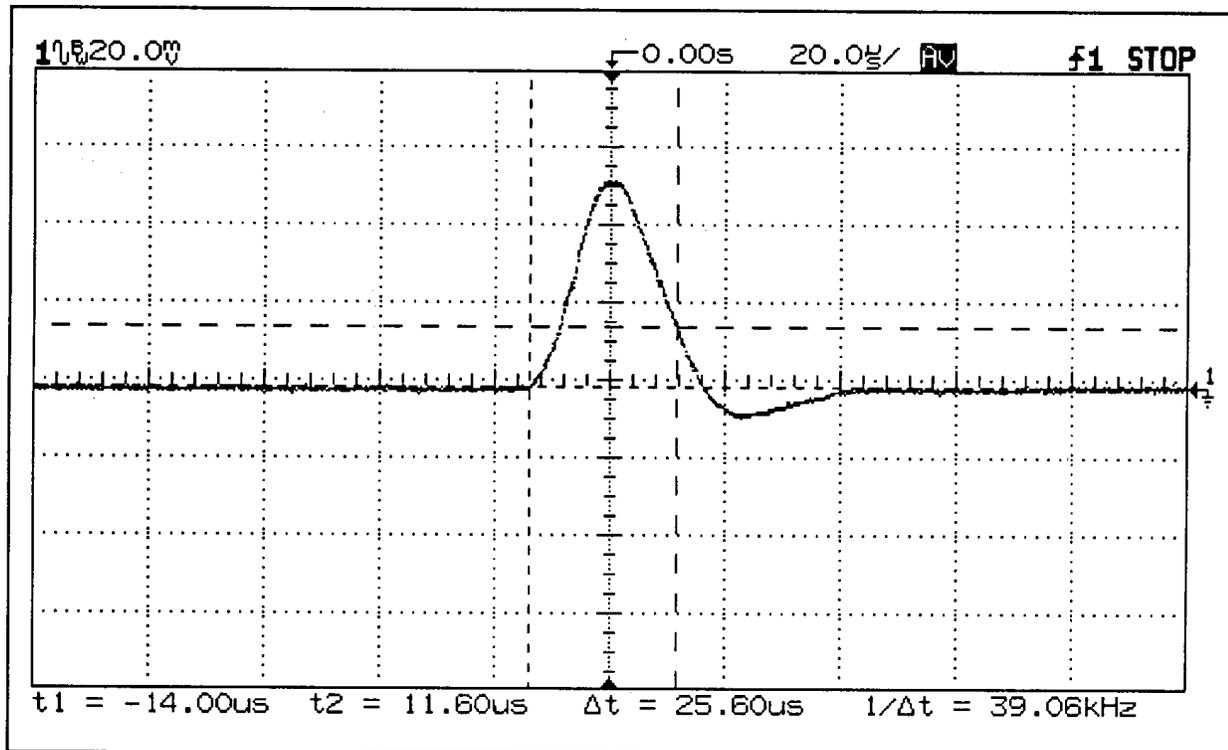

Figure A-8. Load Transient Response Time Waveform
- Adjust the oscilloscope to display transients as in Figure A-8.